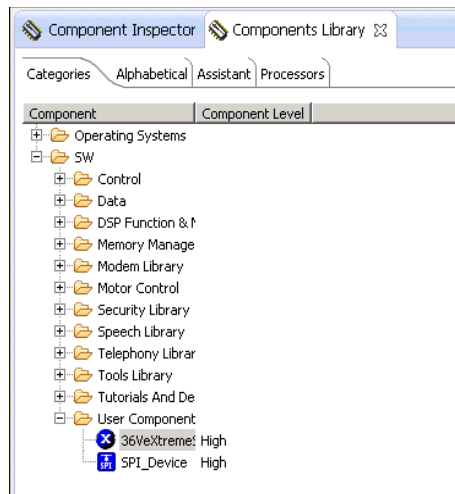

Figure 9. Example Project Folder Component Imported Window
4. Now the SPI_Devicexxxx.PEupd and 36VeXtremeSwitchxxxx.PEupd bean files are two Processor Expert beans for TWR-MC36XSDEVB and ready for compiling or imported to projects (see Figure 9).